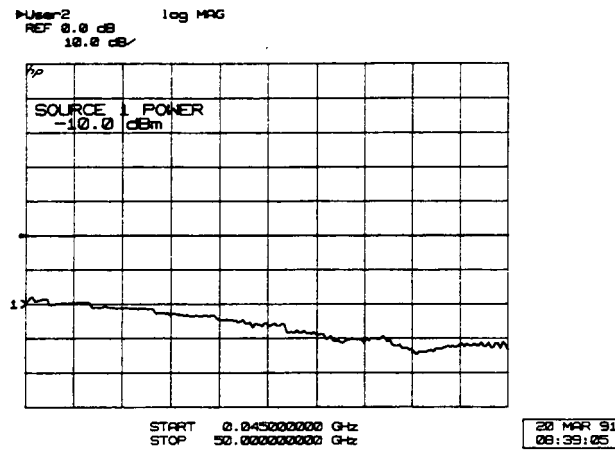

Figure 4-4 Typical Operator's Check CRT Trace
- Press STIMULUS, [MENU], [STEP] and then use the entry keys to set the sweep time to 200 ms. In narrow band systems, the power level in the frequency band generated should match the level shown in Figure 4-4 on page 4-5 for a given frequency.
All of the observed traces should decrease from -15 ± 5 dB at 45 MHz to -35 ± 5 dB at 50.0 GHz. Refer to Figure 4-4 on page 4-5.